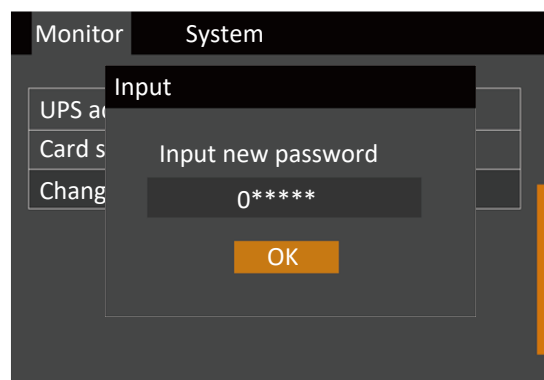

Figure 5-25 Inputting New Password
4. Enter the current password and press the  key to confirm; at this point the system requests the user to enter a new password. See Figure 5-25.